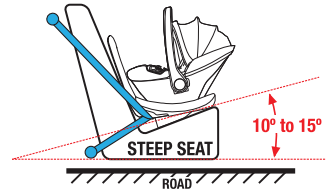

Figure 2
NOTE: Some vehicle seats are steeper than others refer to Figures 2 and 3 for the correct recline.
- Step 4:** Open **EasyLock** (belt clamp) (refer Figure 2 & 3).